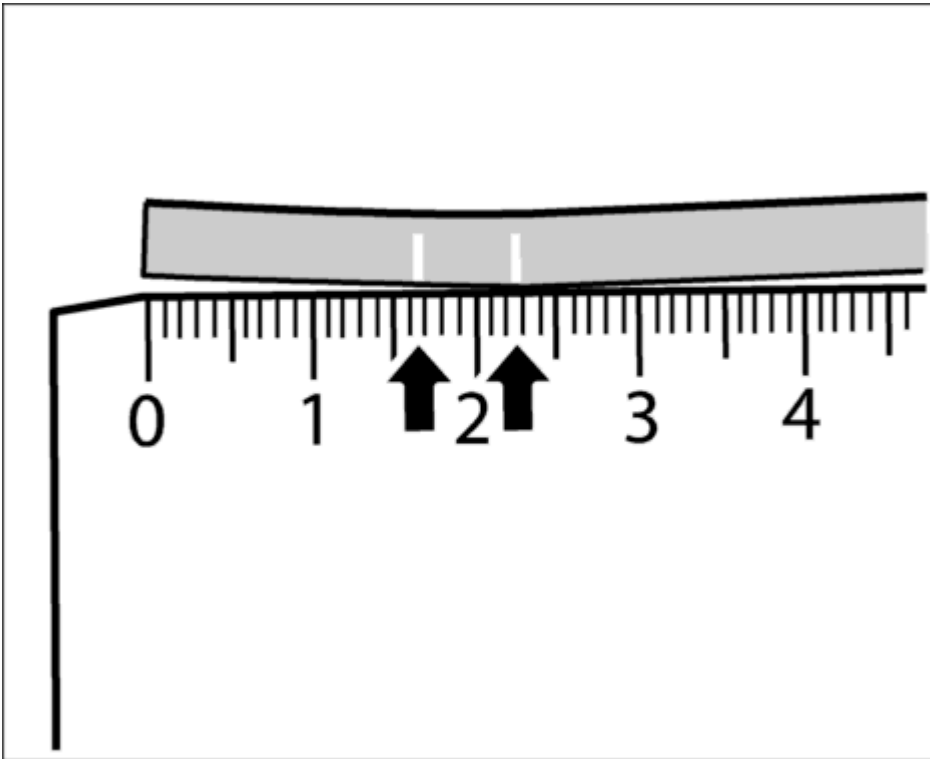

Fig. 115: Marking pressure hose to be replaced
4. Mark the pressure hose to be replaced in color (e. g. with a waterproof marker). Measured from the cut-off end of the hose, make two colored marks at 16 mm and 22 mm respectively **-(arrows)-** . See **Fig. 115**.
5. Insert the pipe until the range between the two color markings min. 16 mm up to max. 22 mm **-(arrows)-** has been reached. See **Fig. 115**.